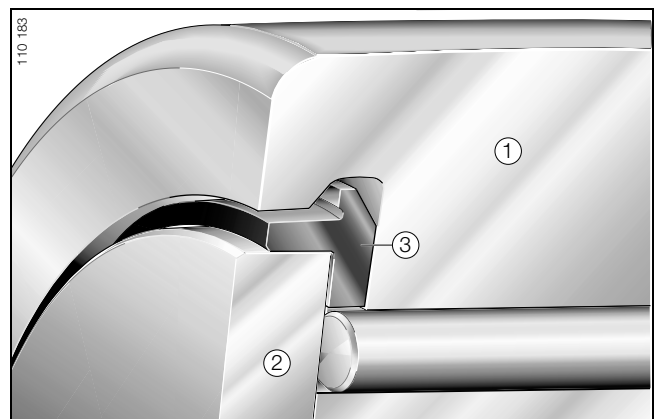

Figure 3 · Plastic axial plain washer with integral lip seal
The radial force is transmitted through the rolling elements (needle rollers) and the inner ring to the adjacent construction, while the axial force is transmitted by means of sliding contact between the outer ring ① and axial washer ② (Figure 3).
- a plastic axial plain washer ③ with a favourable friction coefficient (Figure 3).
The washer is shaped such that, in addition to its sliding properties, it also fulfils the task of sealing the bearing (Figure 3):